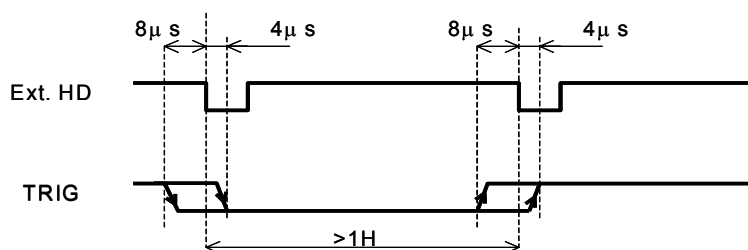
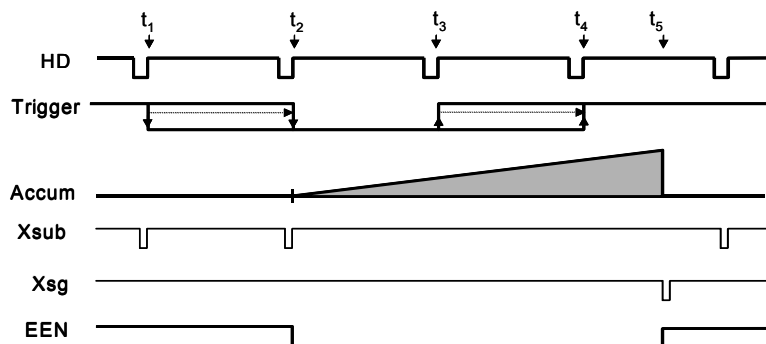
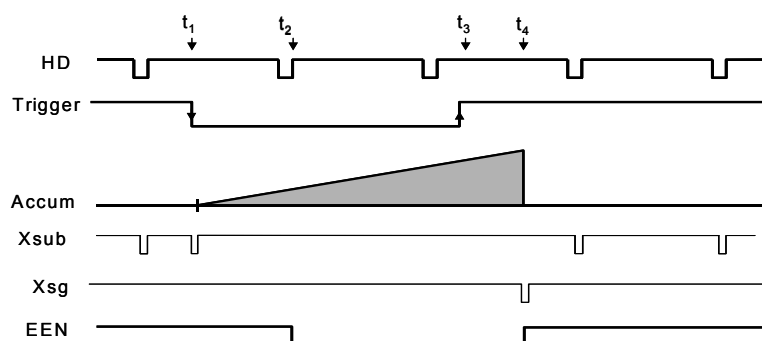

Fig. 17. Trigger/HD Timing.
Fig. 18. Pulse Width H Synchronous Accumulation
Fig. 19. Pulse Width H Asynchronous Accumulation.
The default accumulation is HD synchronously accumulation (HC=0). The accumulation starts at the first HD after the trigger leading edge. Fig. 18. To avoid the  $<1H$  jitter caused by this delay, synchronize the external trigger to HD as shown in fig. 17 below. The trigger level translations should be placed inside the  $8 + 4 \mu\text{s}$ .
In PWC mode (TR =2) and Frame Delay readout (TR=3), the accumulation mode *HC* can be set to asynchronous accumulation (HC=1). The exposure will start immediately at the leading edge of the trigger pulse without waiting for the HD. Fig. 19. below.
- The start of exposure will start synchronized to the internal H signal. The start may be shifted max 1H. To avoid this shift (1 H jitter), synchronize the camera to an external HD and make sure that the trigger pulse aligns to the HD as shown in fig. 17.
- With HC=0 the start of exposure will start synchronized to the internal H signal. The start may be shifted max 1H. To avoid this shift (1 H jitter), synchronize the camera to an external HD and make sure that the trigger pulse aligns to the HD as shown in fig. 17. With HC=1 the exposure will start immediately. Refer to fig. 18 and fig. 19.
- With HC=0 the start of exposure will start synchronized to the internal H signal, the start of exposure may be shifted max 1H. To avoid this shift (jitter), synchronize the camera to an external HD and make sure that the trigger pulse aligns to the HD as shown in fig. 17.
- With HC=1 the exposure will start immediately. Refer to fig. 18 and fig. 19.